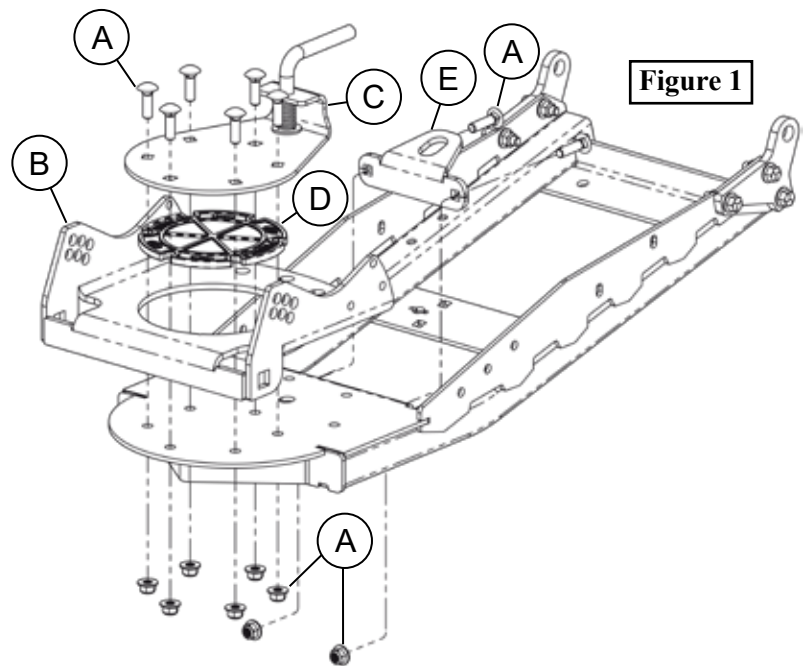

Figure 1
1. Remove and discard the outermost wear bar carriage bolt (A) on the driver side of the plow as shown in **Figure 1**.
2. Hold Side Shield (1) in place on driver side of the blade and secure using 5/16 bolts (3.3) and 5/16 nuts (3.6) as shown in **Figure 1 & 2**. **Note:** Do not tighten at this time.
“Figure 1”
1. Verify template is to scale by measuring above line is EXACTLY 1 INCH. (See Figure 1).
1. Unbolt hardware (A) and remove cradle (B), Lift latch assembly (C), pivot bushing (D), cable hook bracket (E) shown in **Figure 1**.